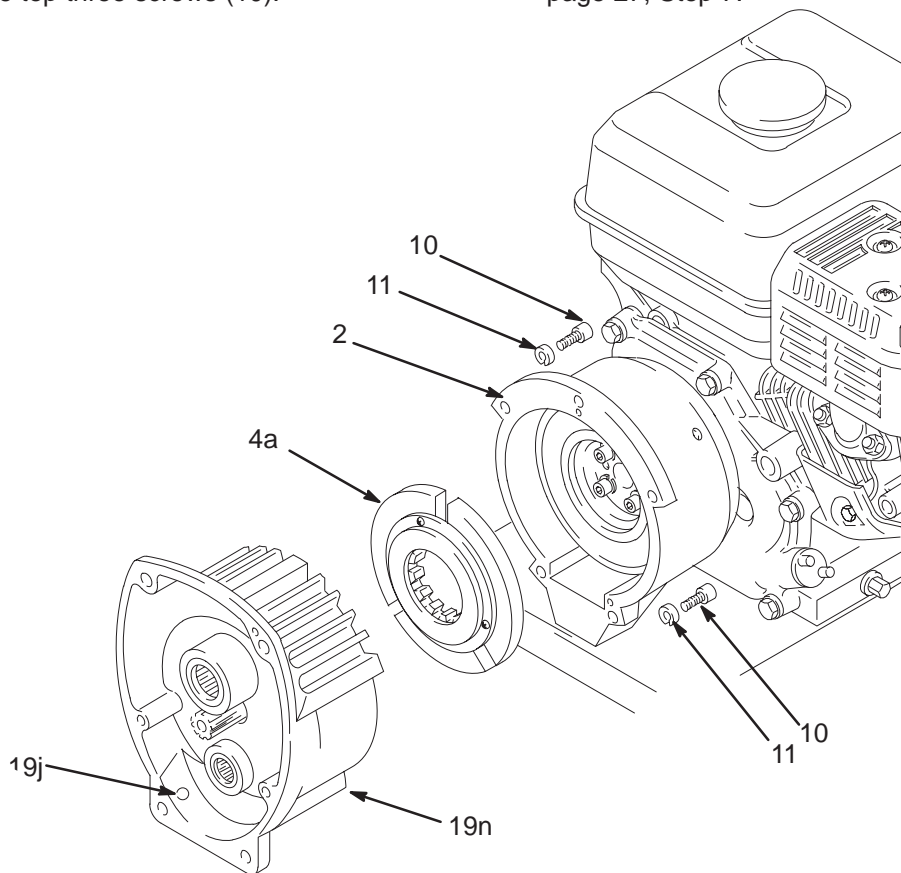

Fig. 13
**NOTE:** Refer to Fig. 13 for Steps 1 to 3, except where noted.
1. Remove the two bottom screws (10) first, and then remove the top three screws (11).
2. Pull the pinion housing (19n) away from the clutch housing (2). The armature (4a) will come with it.